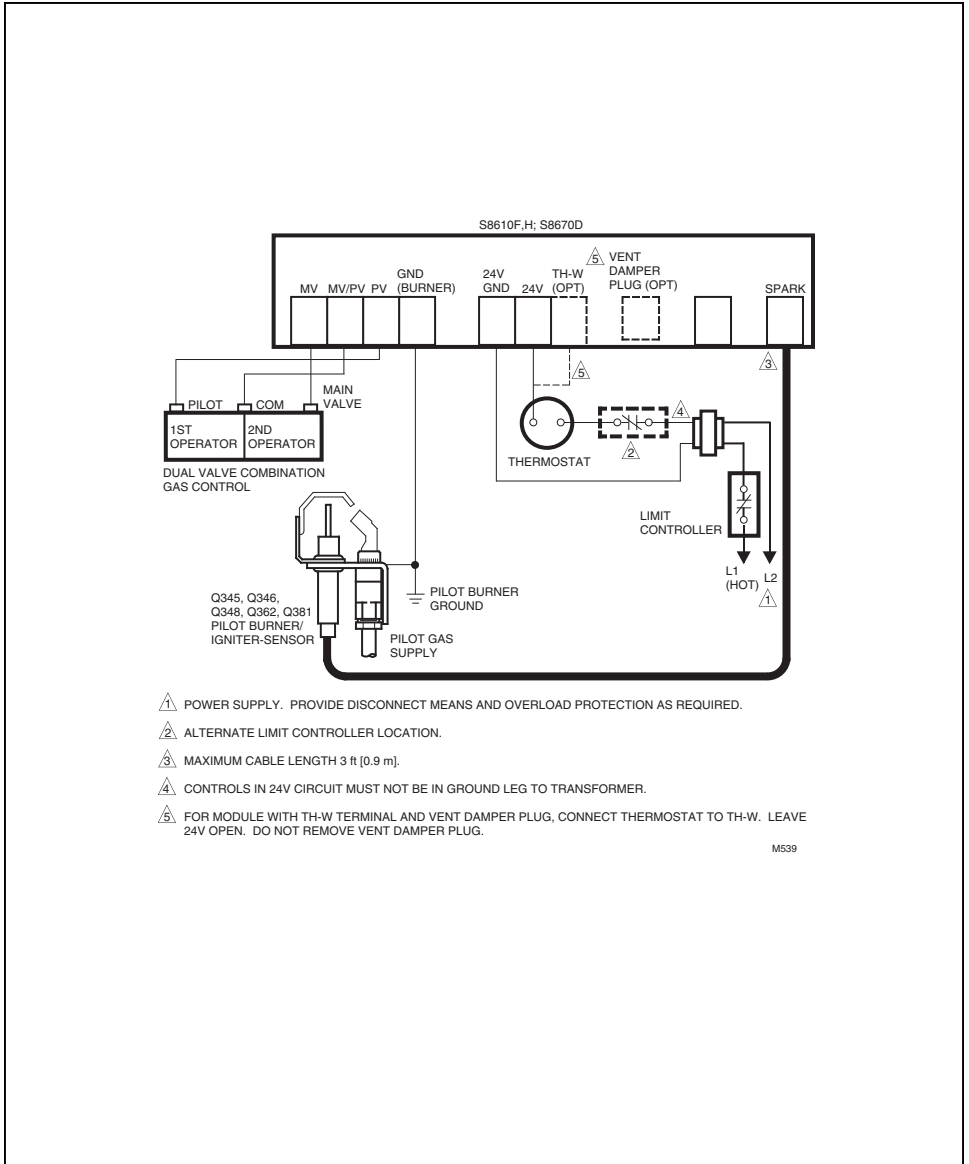

Fig. 2—S8610F,H; S8670D in a heating system with an atmospheric burner.
1. Connect remaining system components to the ignition module terminals as shown in the appropriate wiring diagram, Figs. 2 through 11.
- Fig. 2 is a basic circuit for a heating only atmospheric burner with S8610F,H or S8670D.